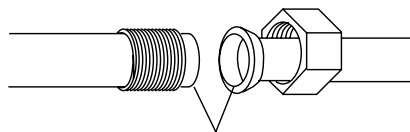

Figure 5
2. Be sure to apply refrigerant lubricant to the matching surfaces of the flare and union before connecting them together. This is effective for reducing gas leaks (Figure 5).